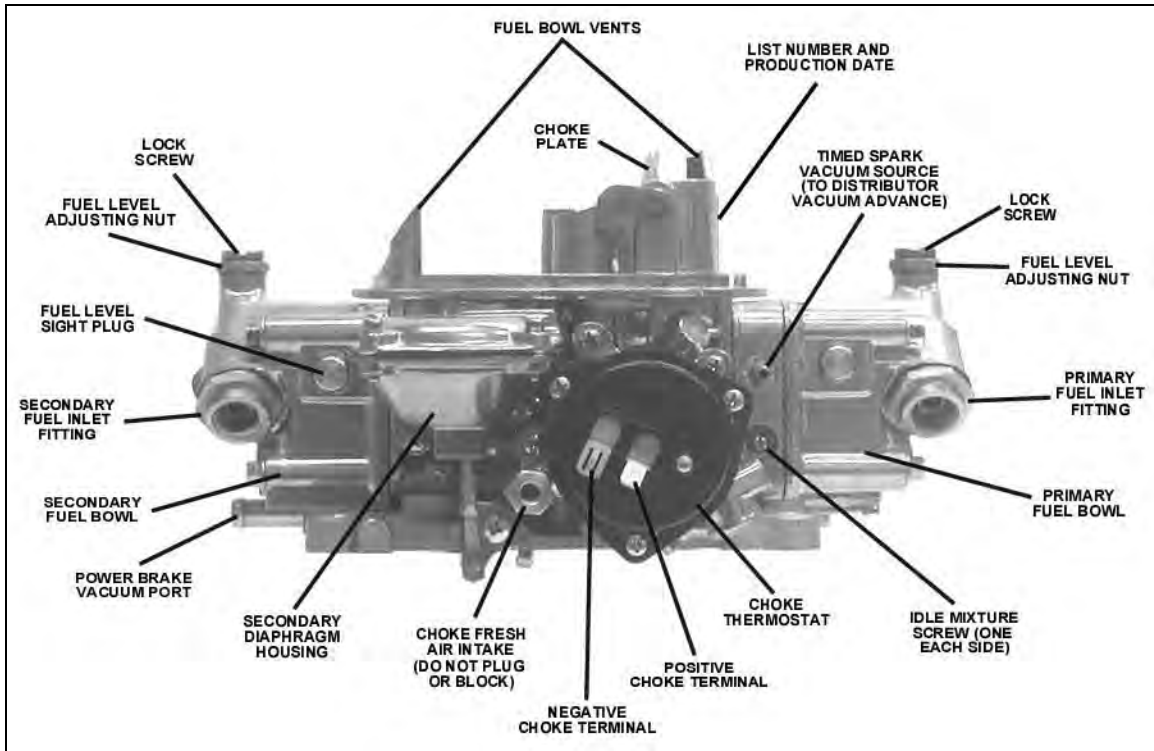

Figure 5 (0-80508S shown)
6. Reconnect the appropriate vacuum hoses to the carburetor, noting the correct fitting from Figure 5 and 6. Replace any cracked or dry rotted hoses at this time to prevent any vacuum leaks.